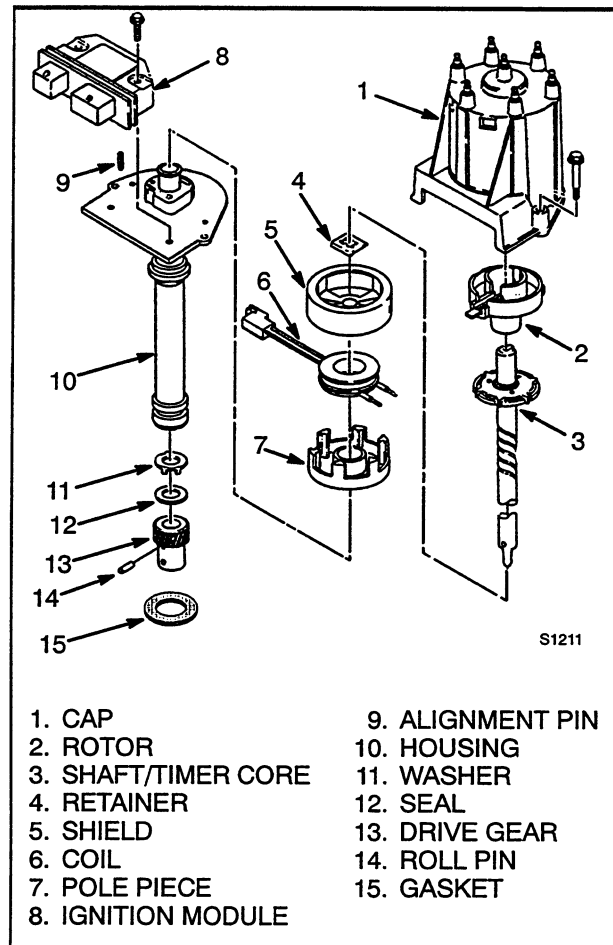

FIGURE 7. DISTRIBUTOR PARTS
- **Ignition module.** This component is a small electronic module within the distributor. See FIGURE 7. This ignition module is a signal converter that senses the operation of the distributor. A sensor coil in the distributor senses the rotation of the timer core and the ignition module senses the speed of rotation. A square wave generator in the ignition module converts the pulses from the sensor coil to a square wave signal that is sent to the ECM. If the signals from the ignition module to the ECM indicate that the crankshaft is rotating at less than 400 rpm, the ECM determines that the engine is being cranked by the starter. The ignition module controls the ignition for an engine being started. The Electronic Spark Timing (EST) function from the ECM is deenergized. If the signals from the ignition module to the ECM indicate that the crankshaft is rotating at greater than 400 rpm, the ECM determines that the engine is running and the Electronic Spark Timing (EST) from the ECM controls the ignition.